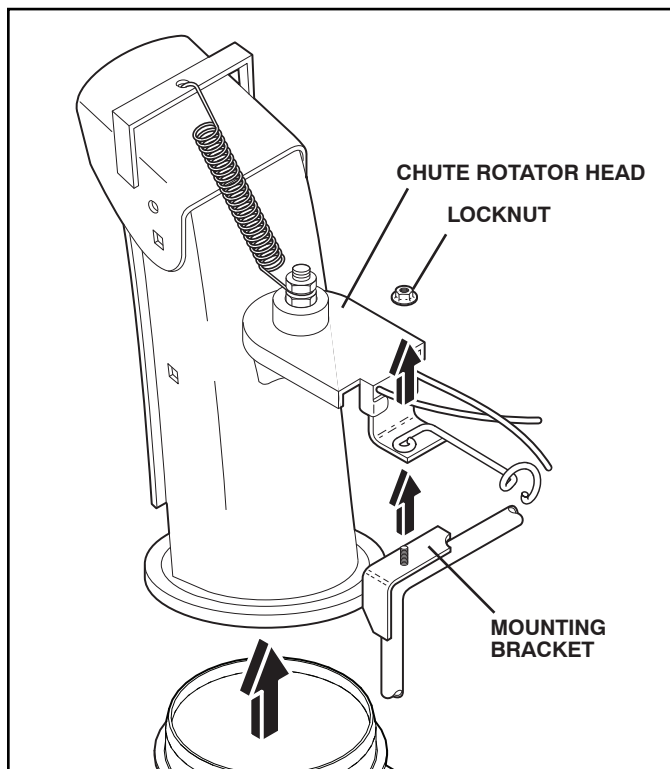

FIG. 19
2. REMOVE DISCHARGE CHUTE - Loosen lock nut securing chute rotator head to mounting bracket to allow chute rotator head to be raised and discharge chute to be removed from snow thrower. See Fig. 19.